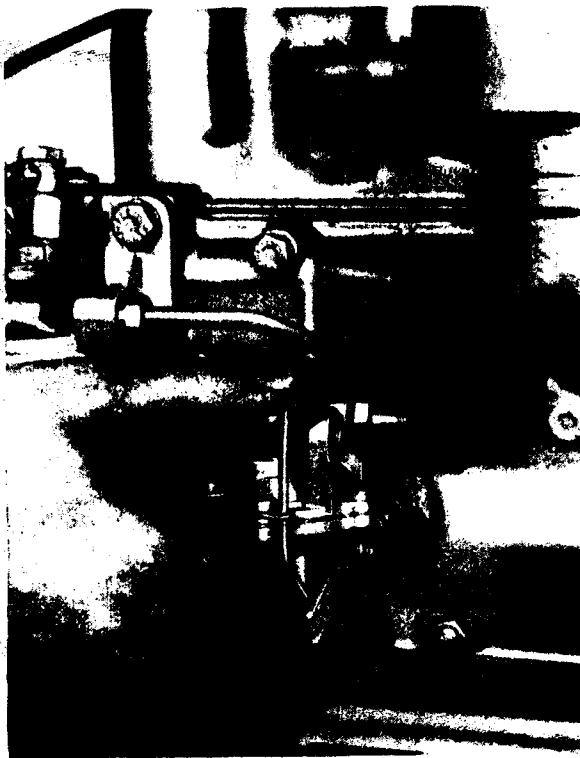

Fig. Q.4.
2. Rotate engine and note if there is a spurt of fuel from outlet port once every two revolutions. The pump may be operated by means of the hand primer as shown in Fig. Q.4. However should the engine happen to have stopped in such a position that the eccentric operating the lift pump is in the maximum lift position, then it will not be possible to operate hand primer properly. If such a condition arises the remedy is to rotate the engine one complete revolution.